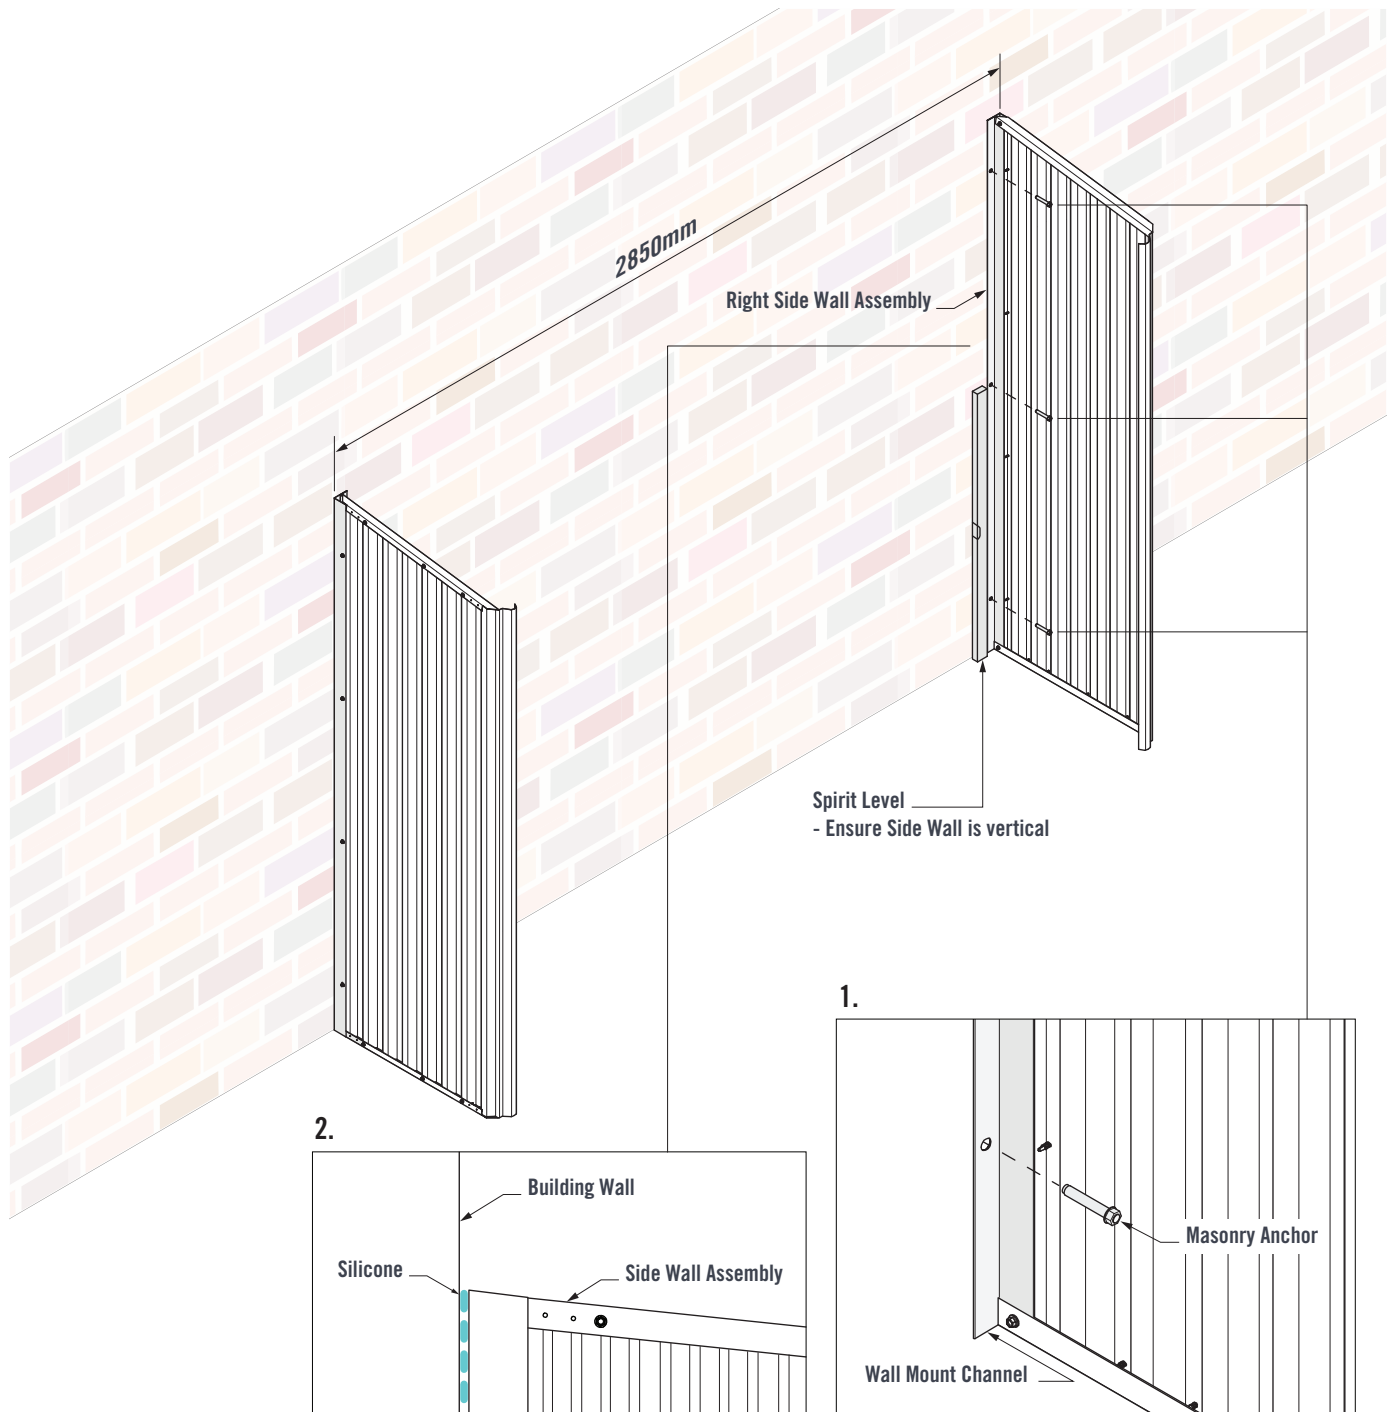

FIGURE 8.1
Position the Right Side Wall Assembly against the building wall. Use a spirit level to ensure the Wall Assembly it is vertical and square to the wall. Ensure a spacing of 2850mm between the outer-most faces of the walls (Figure 8.1).
1. Mark and drill three 10mm holes through the pilot holes of the Wall Mount Channel and into the building wall. Loosely install three M10x47 Masonry Anchors (Figure 8.1).
2. Before tightening the Masonry Anchors, apply a bead of silicone between the Wall Mount Channel and building wall to prevent rain entering the shed (Figure 8.1).